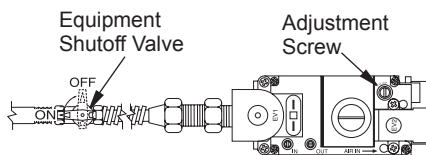

Figure 37 - Turning Equipment Shutoff Valve to the OFF Position
7. Turn equipment shutoff valve clockwise  to the OFF position (see Figure 37).
8. Wait five (5) minutes to clear out any gas. Then smell for gas, including near the floor. If you smell gas, STOP! Follow "B" in the safety information, column 1. If you don't smell gas, go to the next step.
- Turn adjustment screw marked PILOT clockwise to decrease or counterclockwise to increase the flame to proper size (see Figure 37, page 19). Do not remove adjustment screw.